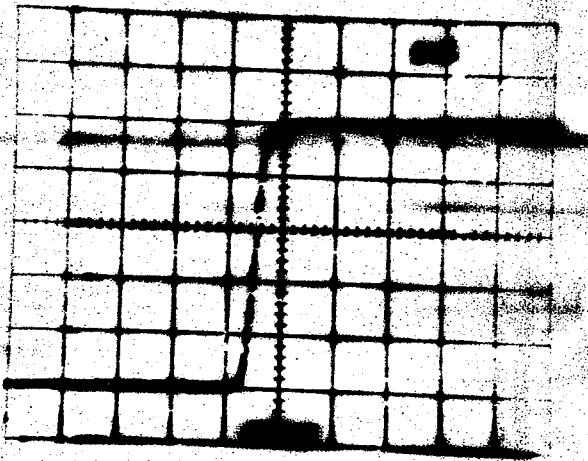

Fig. 7-10. Step Signal. Variable VOLTS/DIV control.
k. Set the CH 1 VOLTS/DIV variable control so the amplitude of the step is precisely two divisions (see Fig. 7-10).